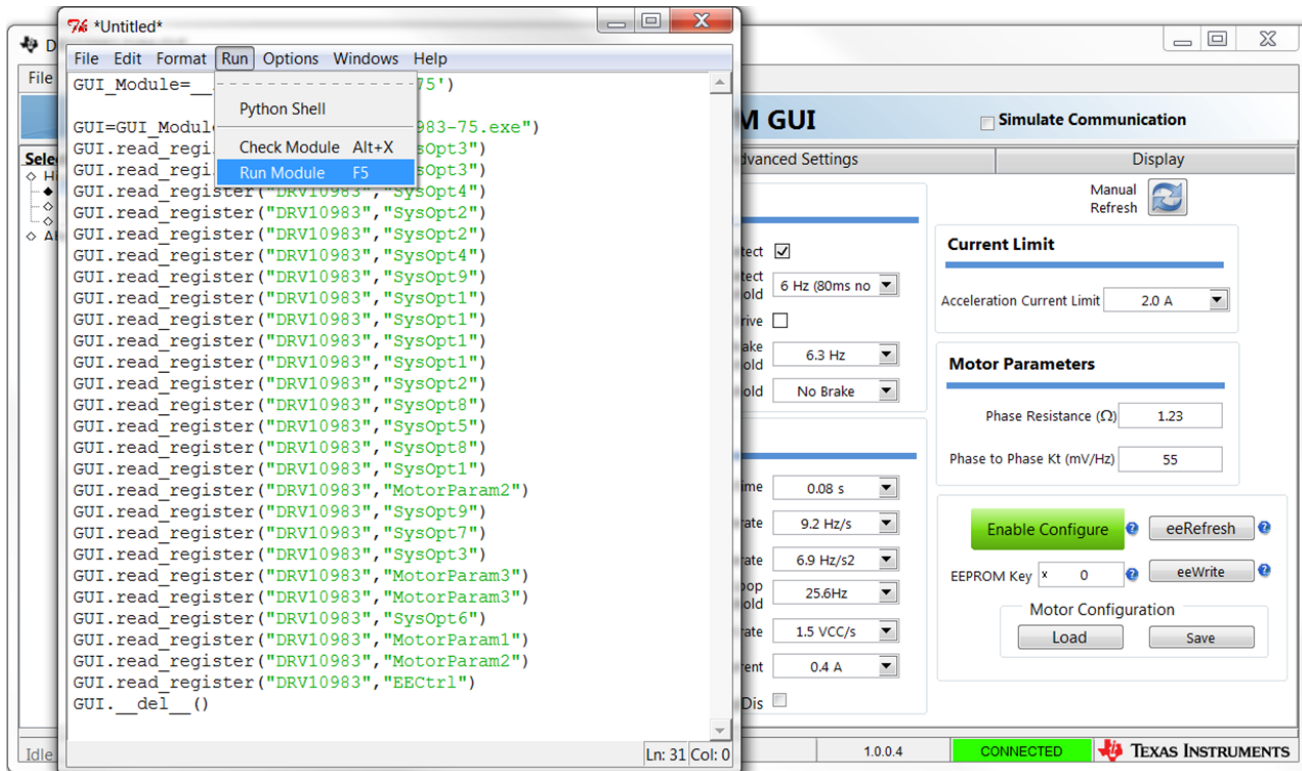

Figure 41. Run Macro
4. Run Script. To run the script, in the IDLE IDE menu bar, go to Run → Run Module as shown in Figure 41.